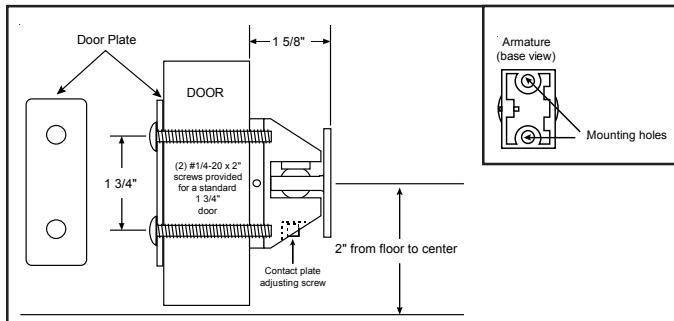

Figure 5. Thru-Bolt Mounting
- Using a 5/32" Allen wrench, turn the contact plate adjusting screw (Figures 5 and 6) counterclockwise to loosen the contact plate.
- Thru-bolt mounting (Figure 5).** Center punch the two holes (at the points marked in step 3) and drill 5/16" diameter through the door. Distance between the center points should equal 1 3/4".
Secure the armature assembly, with the contact plate adjust screw facing down, to the door as shown in Figure 5 using (2) #14-20 x 2" screws (supplied)